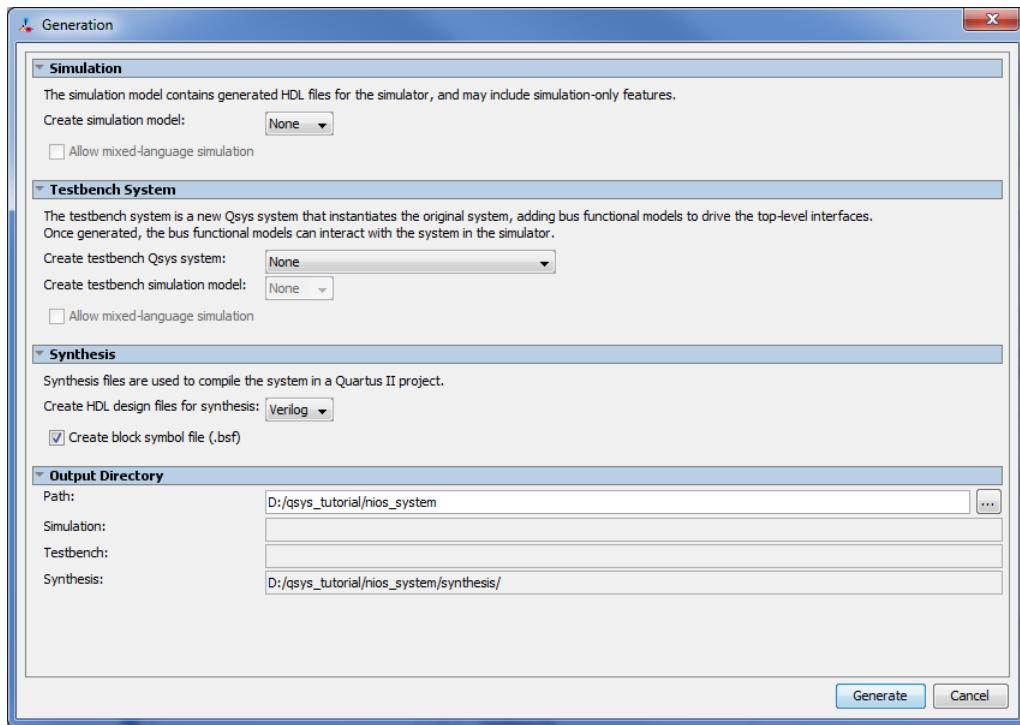

Figure 20. Generation of the system.
15. Having specified all components needed to implement the desired system, it can now be generated. Save the specified system; we used the name *nios_system*. Then, select **Generate > Generate...**, which leads to the window in Figure 20. Select **None** for the options **Simulation > Create simulation model and Testbench System > Create testbench Qsys system**, because in this tutorial we will not deal with the simulation of hardware. Click **Generate** on the bottom of the window. When successfully completed, the generation process produces the message “Generate Completed”.